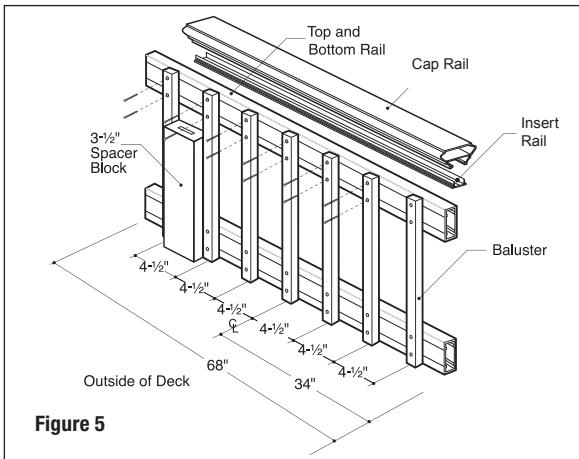

Figure 5
**Traditional, Baroque and Arc balusters: Both top and bottom rails will be installed with the pre-drilled holes facing down to prevent water from collecting in the rail.** Maximum 4-1/2" on-center and equal spacing for the end spacing. Start by finding the center of the rail. Rail length ÷ 2 = center of rail. Start the first aluminum baluster on-center of the center line. Mark every 4-1/2" from this line to each end. This will leave the end spacing less than 4" on both ends and require 15 aluminum balusters (**Figure 5**). Tip: Use a piece of 2x4 (3-1/2" actual) as a spacer block for the spacing between balusters.
**Glass balusters: Both top and bottom rails will be installed with the pre-drilled holes facing down to prevent water from collecting in the rail.** 7-1/2" on-center and equal spacing for the end spacing. Start by finding the center of the rail. Rail length ÷ 2 = center of rail. Start the first glass baluster on-center of the center line. Mark every 7-1/2" from the center line to each end. This will leave the end spacing 4" or less on both ends and require nine glass balusters. If installing using connectors, attach connectors to both rails on marked locations. Tip: If face-mounting to rail, use a piece of 2x4 (3-1/2" actual) as a spacer block for the spacing between balusters (**Figure 5**).
**Step 12 Traditional, Baroque, Arc balusters; and Face-Mount Glass balusters:** Start the first baluster on-center of the center of the rail and work out to each end. Using the baluster as a guide, drill 9/64" holes in the rails at each baluster location. Use a 2x4 as a spacer block to space the next baluster. Working toward the ends, drill and attach each baluster with the screws provided (**Figures 5 & 6**).